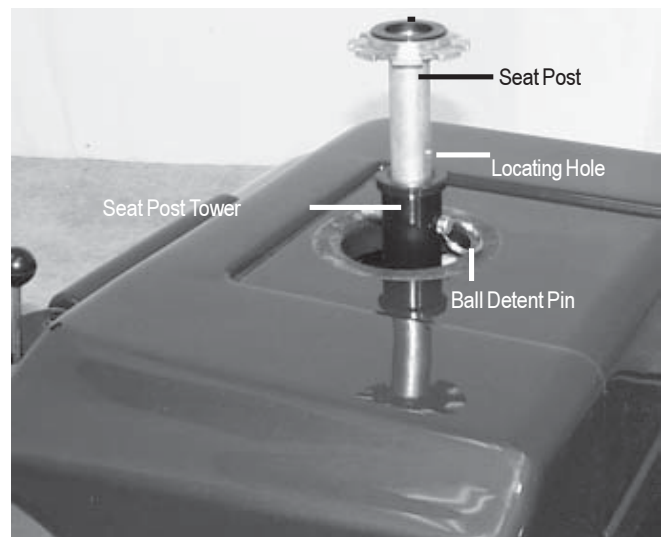

Figure 9. Seat Height Adjustment
2. Use the attached ring to pull and remove the ball detent pin from the seat post tower. See figure 9.